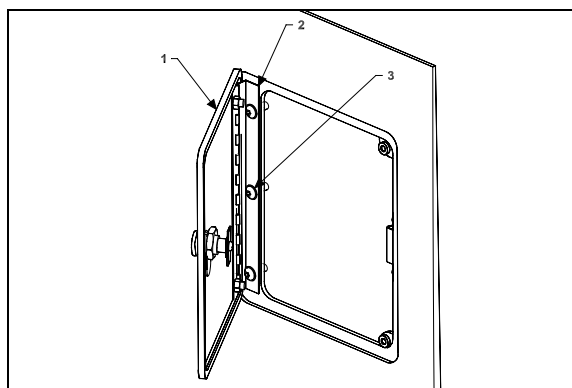

FIGURE 91: FUEL FILLER DOOR
5. Loosen bracket nuts holding the panel to condenser. Panel (6, Figure 91) may be shifted "IN or OUT", "LEFT or RIGHT" and "UP or DOWN".
6. Adjust condenser panel at brackets (2, Figure 91) and (5, Figure 91).
2. Loosen the nuts (1, Figure 91) holding the hinge (3, Figure 91) to hinge attachment (4, Figure 91). Loosening nuts (1, Figure 91) allows the condenser assembly to be shifted "LEFT or RIGHT" and "UP or DOWN".